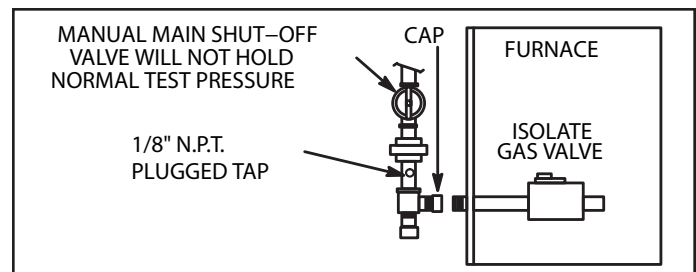

Figure 53.
5. A 1/8" N.P.T. plugged tap or pressure post is located on the gas valve to facilitate test gauge connection. See Figure 53.
When testing pressure of gas lines, gas valve must be disconnected and isolated (see Figure 53). Gas Valves can be damaged if subjected to pressures greater than 1/2 psig (3.48 kPa).